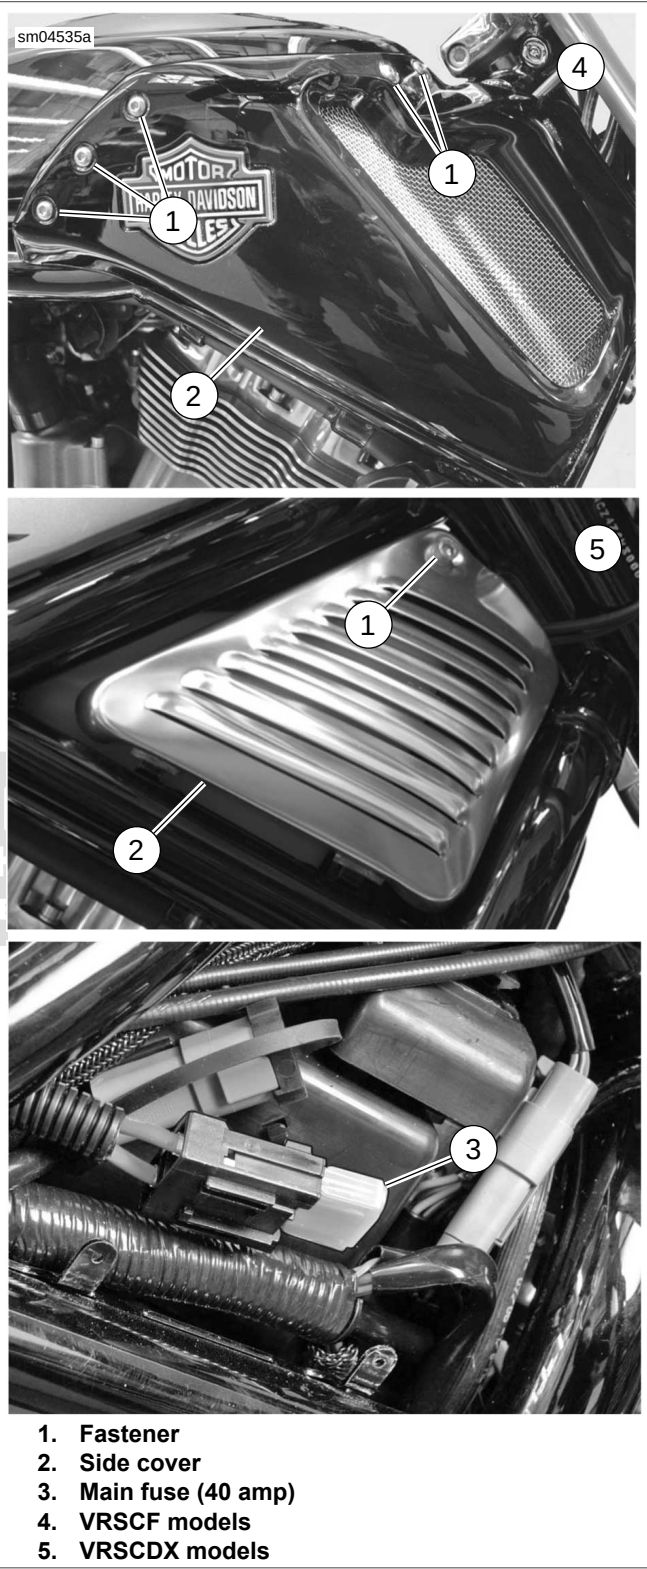

Figure 7-7. Main Fuse
1. See Figure 7-7. Remove the fastener (1) securing the side cover (2). Carefully lift the side cover off the mounting tabs and set it aside.
2. Grasp the fuse holder in one hand, the plastic body of the main fuse (3) in the other, and pull the main fuse straight out of the fuse holder.